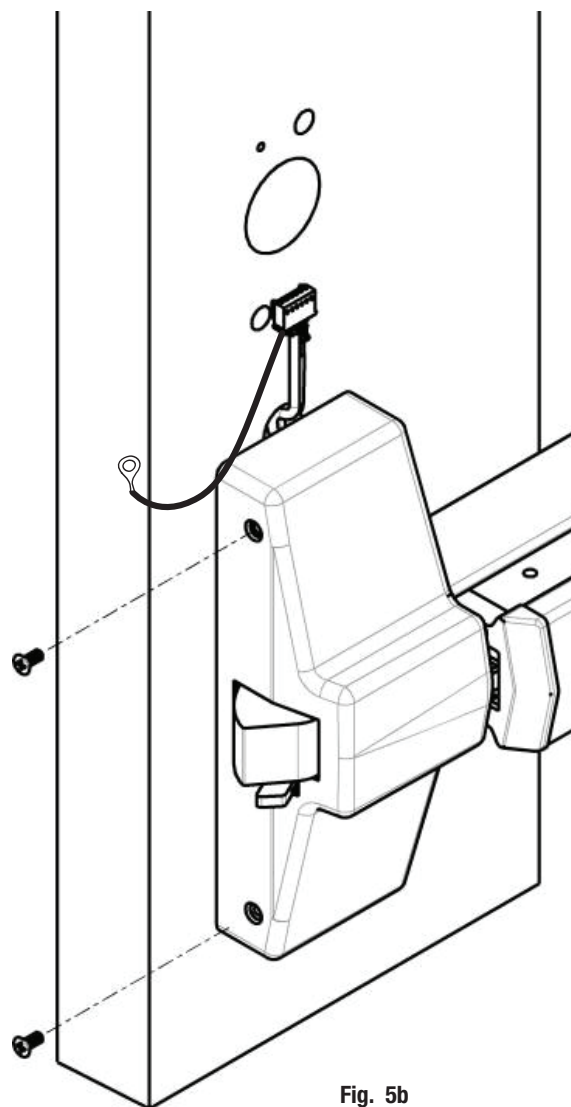

Fig. 5b
- c. Attach head cover using (2) #8-32 flat head screws (Fig. 5b).